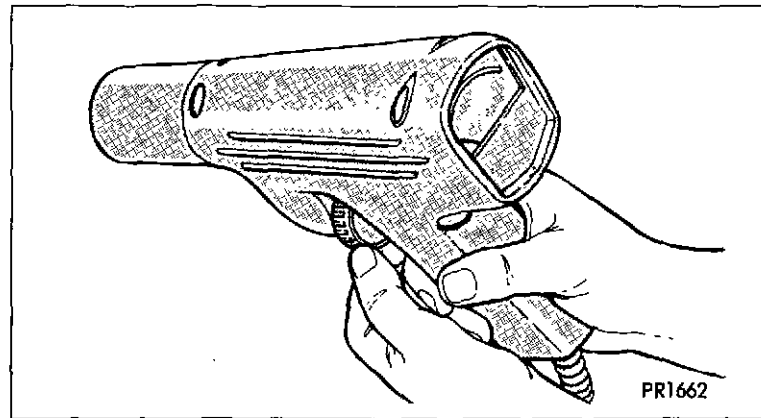

Fig. 19—Adjustable Timing Lamp
7. Aim the power timing lamp at the front crankshaft pulley (Fig. 19) or read the magnetic timing unit. If flash occurs when the timing mark is before the specified degree mark, timing is advanced. To adjust, turn the distributor housing in the direction of rotor rotation. If flash occurs when the timing mark is after the specified degree mark, timing is retarded. To adjust, turn the distributor housing against the direction of rotor rotation. If timing is within ± 2 degrees of the correct timing, proceed to step 9. If timing is outside the specified tolerance, proceed to the next step.